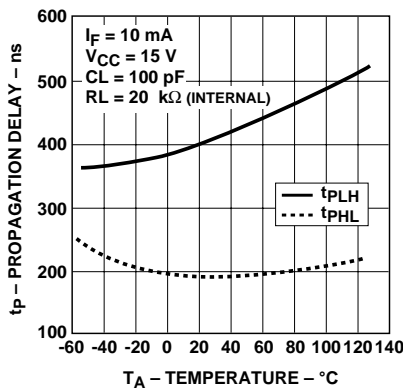

Figure 8. Propagation delay with internal 20 kΩRL vs. temperature
- Due to the tolerance of the internal resistor, and since propagation delay is dependent on the load resistor value, performance can be improved by using an external $20\text{ k}\Omega$ 1% load resistor. For more information on how propagation delay varies with load resistance, see Figure 8.